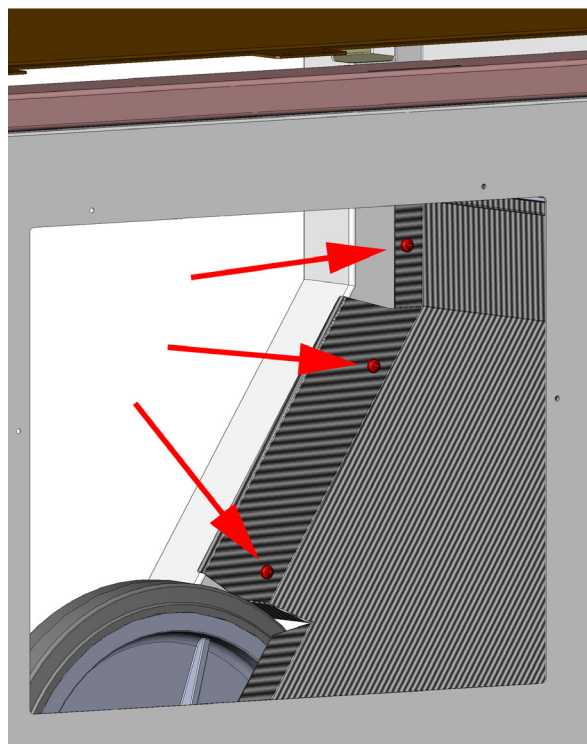

FIG. 4
4. When viewed from the rear access areas, remove 3 screws shown in Fig. 4.